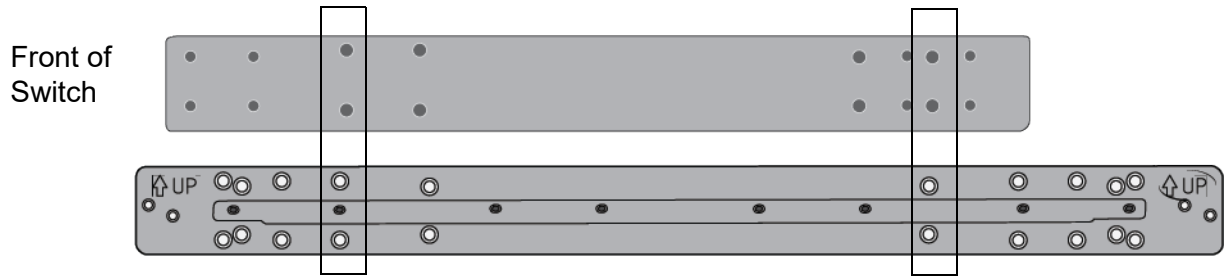

Figure 24. Inner Rail Screw Holes for the x930 Series
**x930 Series** Use four screws on each side. Refer to Figure 24.